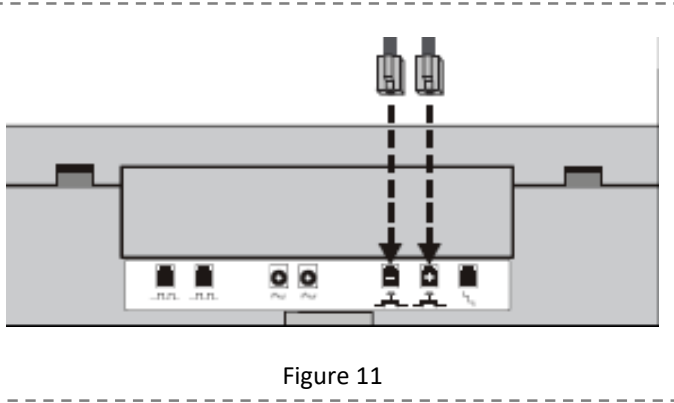

Figure 11
1. Plug the data connector with two push buttons attached into the (+) jack on the back of the display (Figure 11)
2. Plug the other data connector with the single push button attached into the (-) jack on the back of the display (Figure 11)